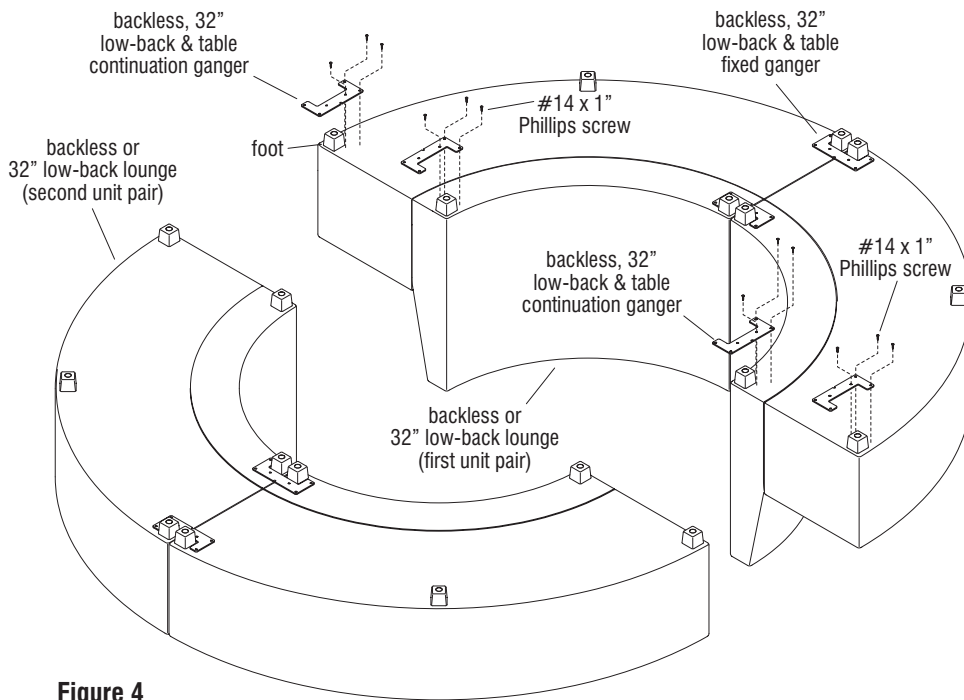

Figure 4
1. As illustrated, but following the intended final lounge seating configuration, carefully align and install a backless, 32" low-back & table continuation ganger to the front and back underside of each first unit pair, which is intended to join next to the second pair. (Figure 4).